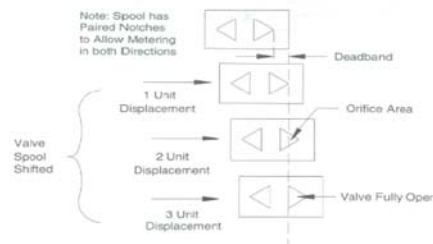

FIGURE 12.7
- When the spool is shifted, openings are produced as shown in Fig 12.7.